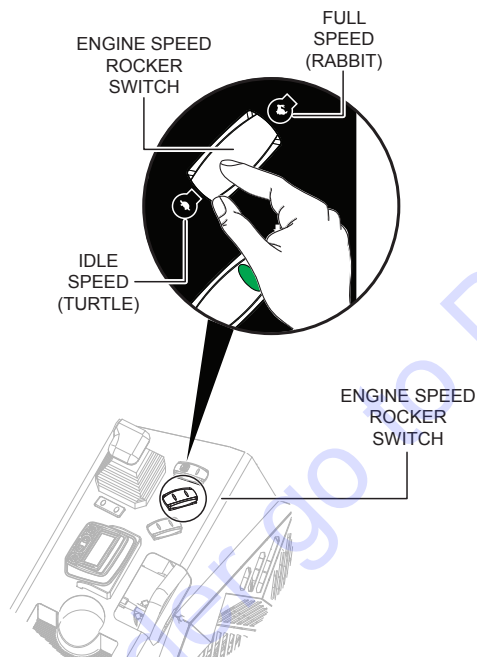

Figure 29. Engine Shutdown
1. Return the engine speed rocker switch (Figure 29) to idle and allow the engine to idle for 5 minutes.